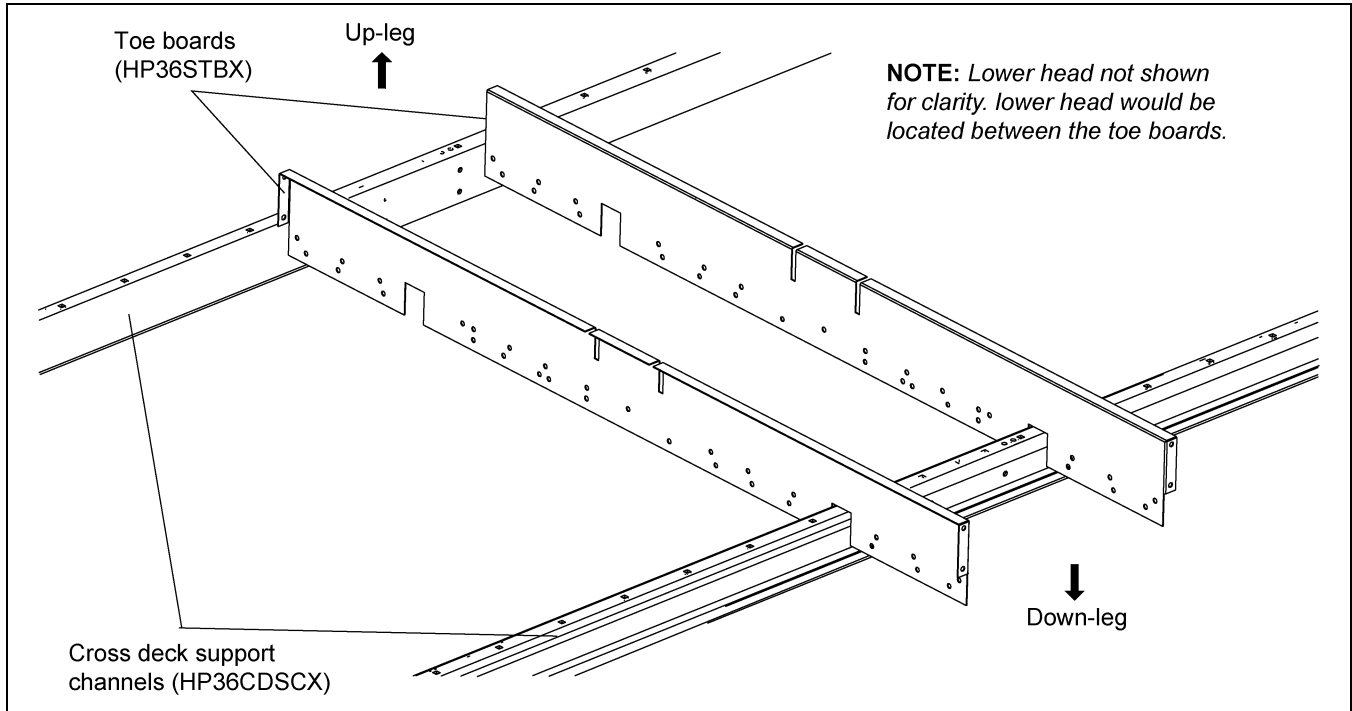

Figure 9G
2. On the drive side slide one toe board (HP36STBX) into place. (See Figure 9G.)